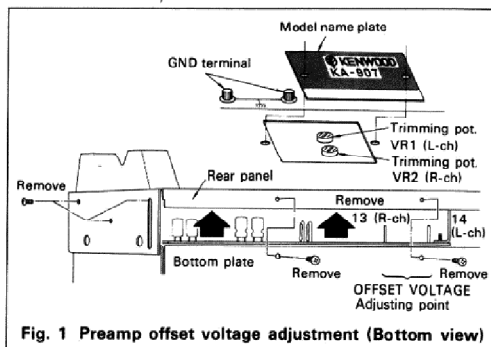

Fig. 1 Preamp offset voltage adjustment (Bottom view)
3. Adjusting the trimming pot. VR1 (VR2), as shown in Fig 1, for 0V reading of the DC voltmeter.